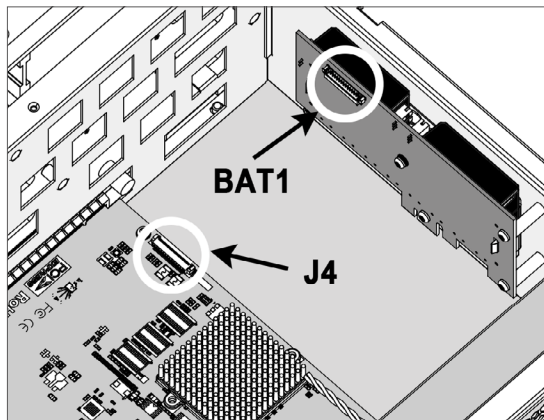

Figure B-11, Secure the Battery Module
3. Insert the cable connector into the **BAT1** (14-pin box header battery connector on ARC-1883-BAT/CAP module), and also insert another side of the cable connector into the **J4** (14-pin box header battery connector on ARC-8050T3-24R backplane), as shown in Figure B-11.